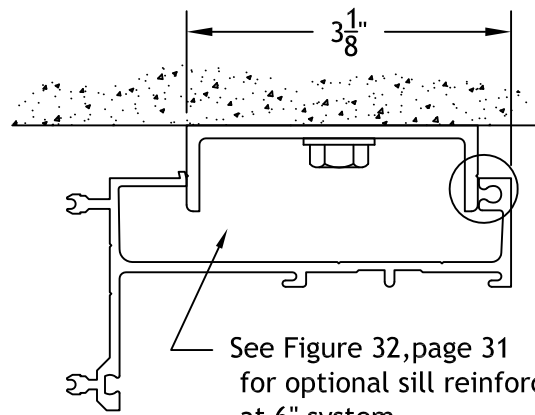

Figure 23
- 6.2 If optional reinforcing sleeves are used (6" system only), refer to Section B, page 30 for instructions before proceeding. **NOTE: Front edge of head anchor is 3-1/8" (4-5/8") in front of rear edge of frame.** Slide head of frame over the head anchor which has been previously installed and rotate into position, then lower onto sill anchor. Check to insure that frame is plumb, square and level. Check caulk joints to insure uniformity. **NOTE: FOR OPTIMAL PERFORMANCE OF HEAD ANCHOR, DIE LINES MUST BE VISIBLE ON THE ANCHOR AT THE TOP OF THE FRAME. FIGURE 23.**